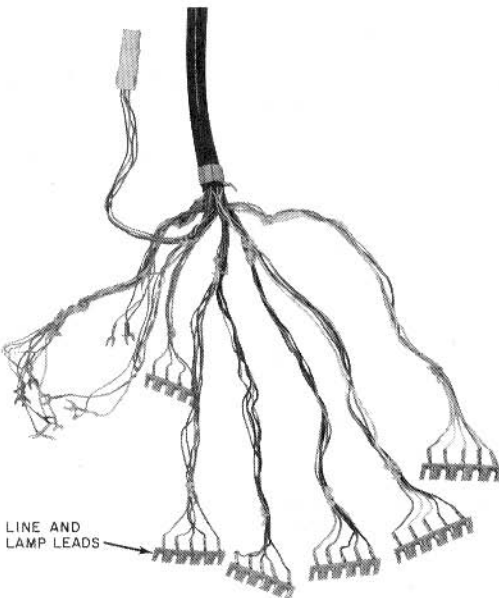

Fig. 11—Mounting Cord Used With 636-Type Key
3.08 Still later manufactured cords, designed for use with 636-type key assemblies, feature slotted wafer sections for each line appearance (Fig. 11). This allows easy arrangement of lines to pickup buttons.